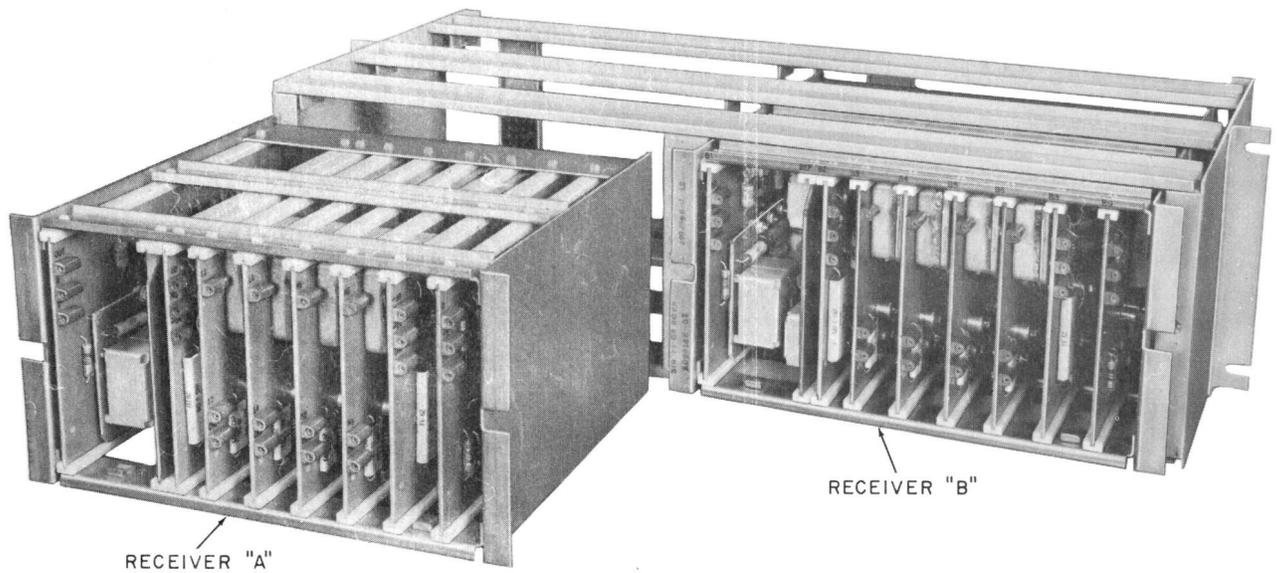

Fig. 11—J99289B, List 1 TOUCH-TONE Calling Receiver, Type A3, Front View (Cover Removed)
- Two J99289B, List 1 receivers (type A3) (Fig. 11)